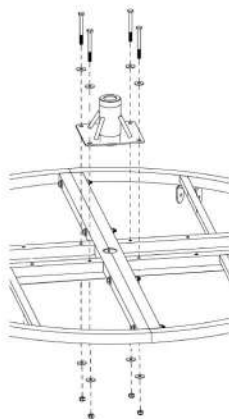

Figure 1.
Step 2. Assemble the hub to the platform as seen in Figure 1.